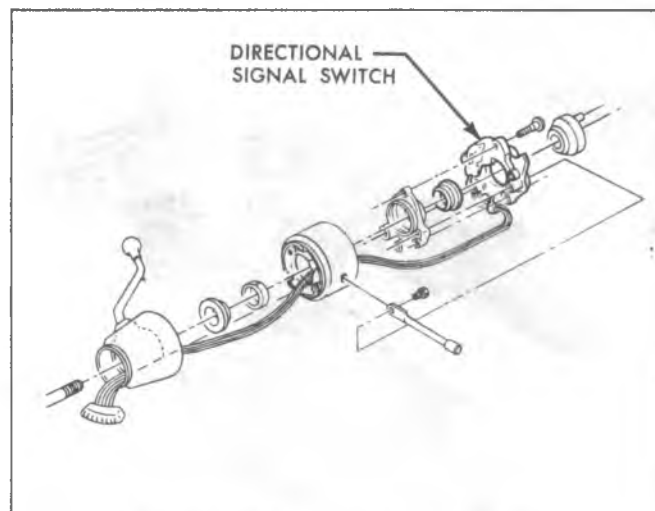

Fig. 3B4-67--Directional Signal Switch
5. Pry the wiring harness protector out of the column retaining slots as shown in Figure 3B4-68.
connector using Tool J-22727 (Fig. 3B4-69). Insert the tool into the lower end of the connector and push in until the tool bottoms on the connector. Remove the tool and then pull the wire from the connector.